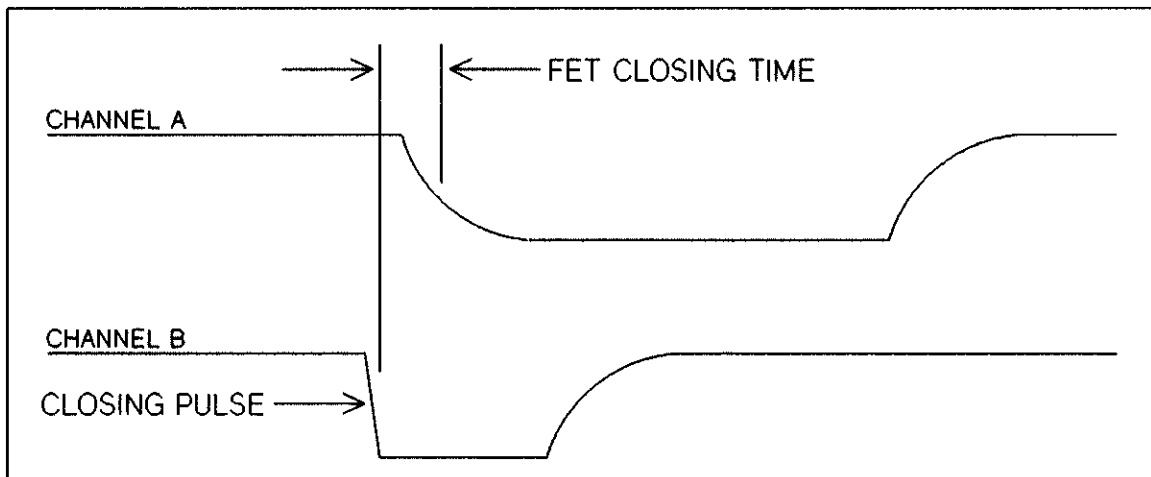

Figure 10-30 HP 44712A Closing Time
3. Rotate the DELAY SWEEP dial on the oscilloscope to the minimum position. Slowly rotate the dial clockwise until the first closing is displayed. The Channel B trace is the closing pulse output from the multiplexer. The Channel A waveform is the +5V supply, as switched by the FET channel switches. As the DELAY SWEEP dial is rotated, each channel switch and the associated CLOSING pulse will come into view. The FET closing time is the time from the falling edge of the CLOSING pulse to the falling edge of the Channel A waveform. This time must be less than 2.25 μ seconds. The closing time is illustrated in Figure 10-30.